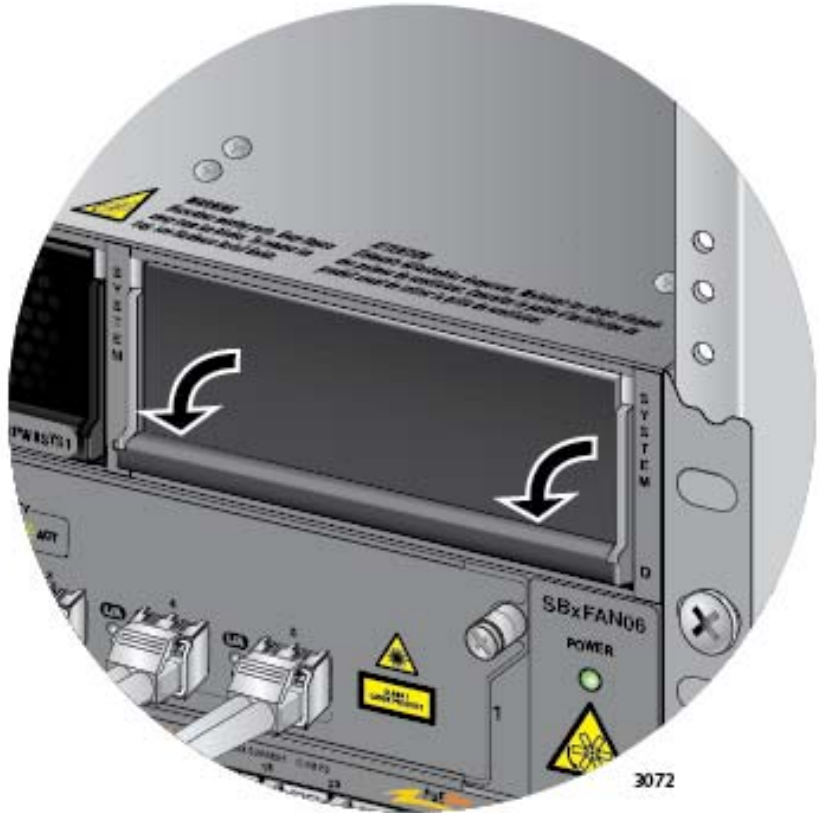

Figure 170. Lowering the Locking Handle on the Power Supply Slot Cover
6. Lower the locking handle to secure the slot cover in the power supply slot. Refer to Figure 170 on page 285.